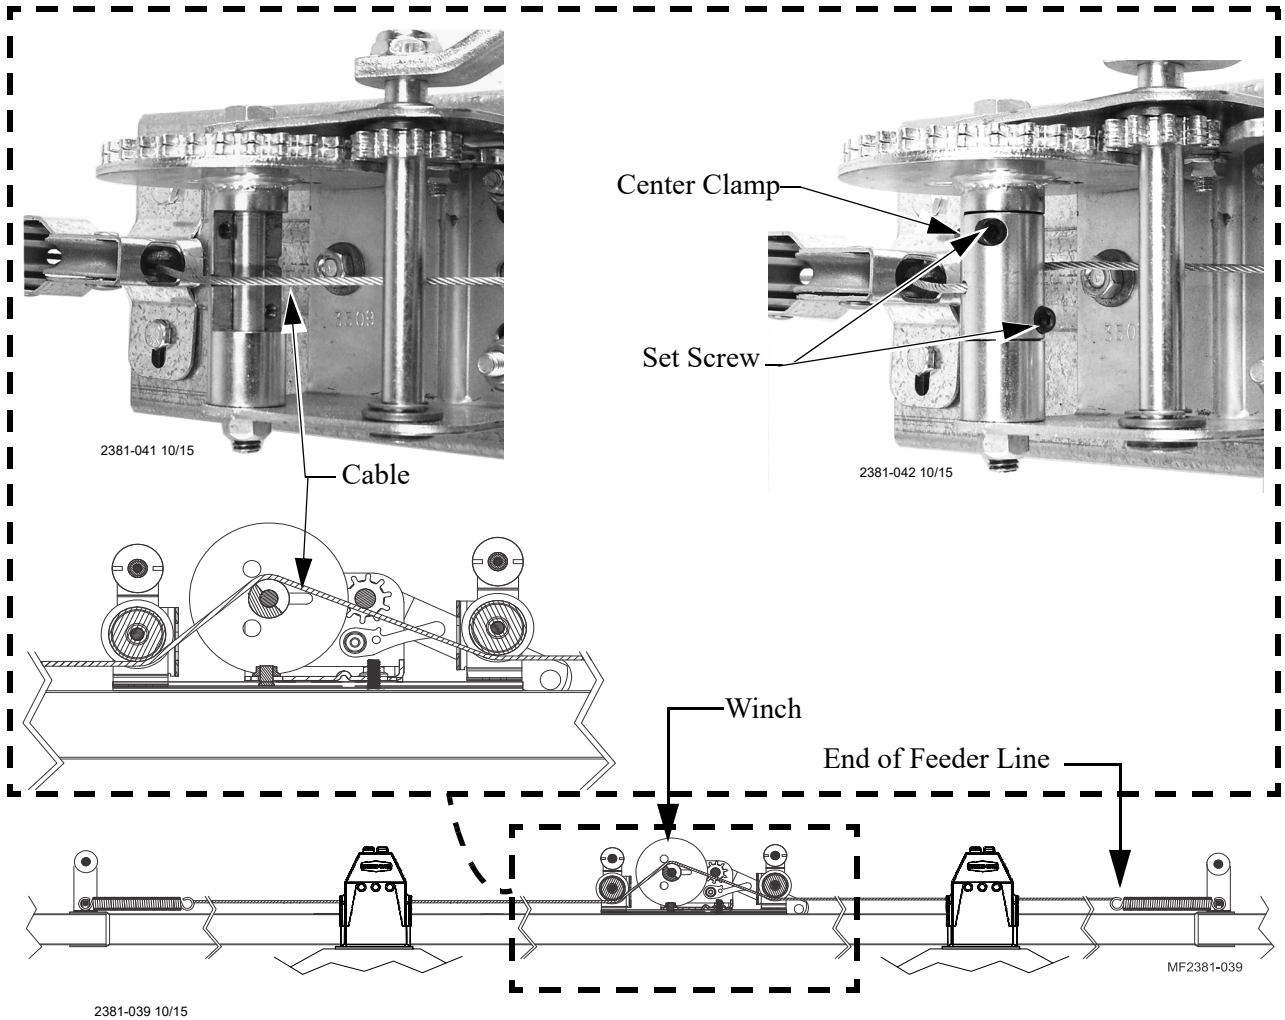

Figure 48. Cable Routing at Winch
3. Feed the Cable through the Feeder Support Cones to the Winch. Winch Cable Routing **shown** in **Figure 48**.
4. Route the Cable through the Center Hub of the Winch **as shown** below in **Figure 48**.